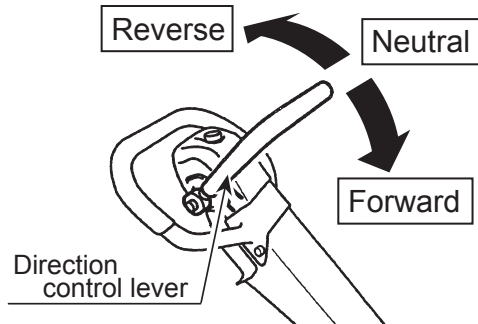

Figure 17. Direction Control Lever
3. Using the direction control lever, move the machine backward or forward (Figure 17). When the direction control lever is pushed forward, the machine moves forward. When pulled backward, the machine moves backward.